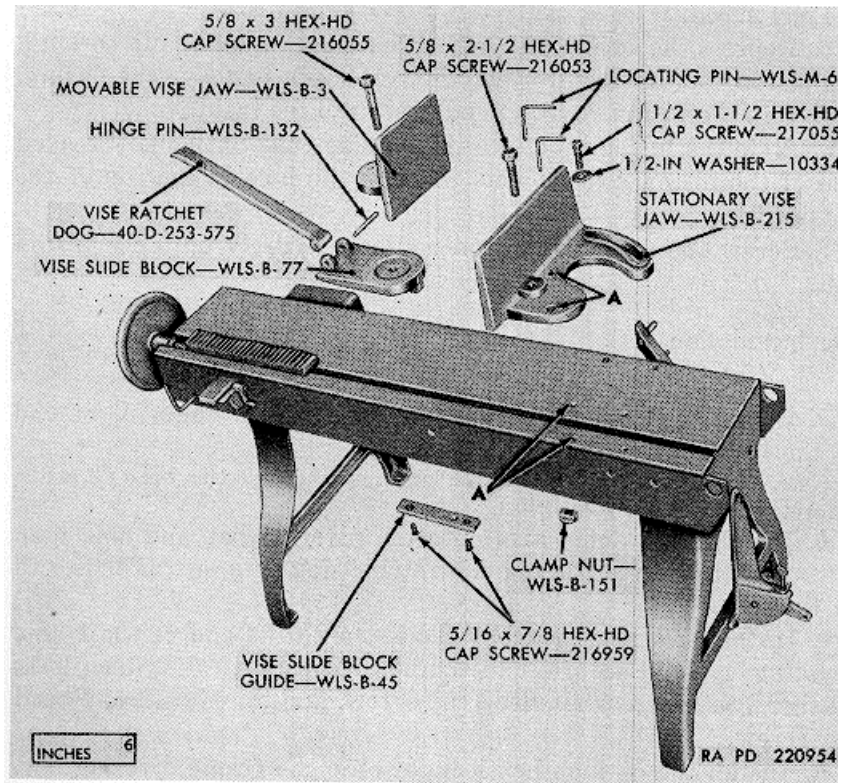
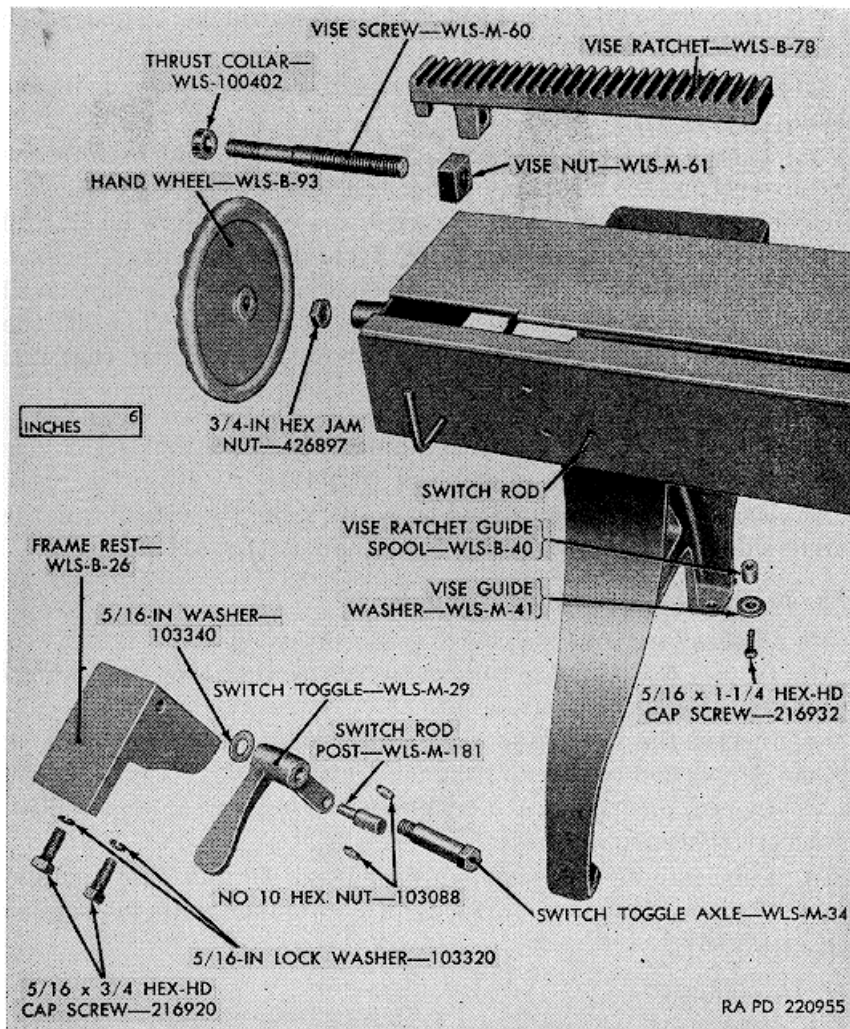
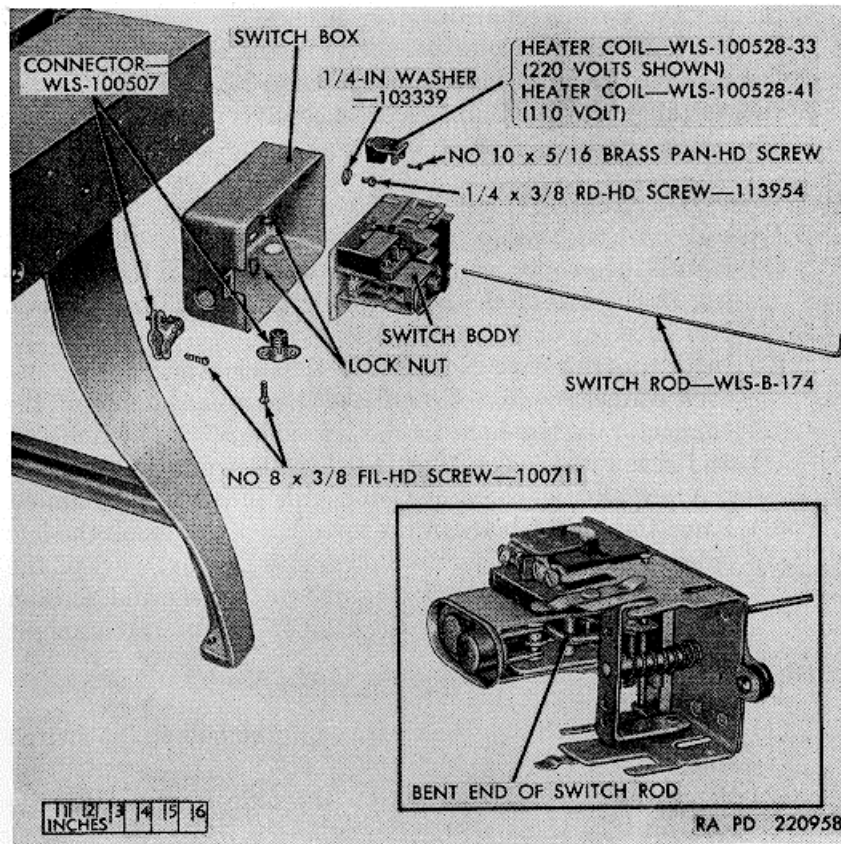

Figure 41. Vise assembly—exploded view.
Figure 42. Vise ratchet, handwheel and switch toggle-exploded view.
Figure 45. Pushbutton switch-exploded view.
The vise assembly (fig. 41) clamps and holds the material in position for cutting. It is located on the bed of the bandsaw and is tightened by the handwheel (fig. 42) on the left side of the band saw. The vise can be positioned to make angular cuts up to 45° (par. 15d).
- a. Slip out the two locating pins from the stationary vise jaw (fig. 41).
- b. Remove the hex-head cap screw and washer from the slot in the stationary vise jaw (fig. 41).
- c. Remove the other hex-head cap screw from the stationary vise jaw which will also release the clamp nut located on the underside of the bed and remove the vise jaw (fig. 41) and clamp nut.
- d. Unscrew the hex-head cap screw from the movable vise jaw and lift off the jaw (fig. 41).
- e. Remove the two hex-head cap screws from the vise slide block guide, from the underside of the bed, and remove the guide (fig. 41)
- f.* Remove the vise slide block with the vise ratchet dog attached (fig. 41).
- g.* Turn the vise screw (fig. 42) in as far as it will go, using the handwheel.
- h.* Loosen the hex jamnut on the vise screw and remove the handwheel and the hex jamnut (fig. 42).
- i.* Remove the hex-head cap screw, the vise guide washer, and the vise ratchet guide spool (fig. 42) from the underside of the bed.
- j.* Pick up the vise ratchet slightly and move it to the right until the vise screw clears the welded sleeve on the bed. Then lift the vise ratchet clear of the bed and remove the thrust collar (fig. 42).
- a.* With a drift, drive out the hinge pin which holds the vice ratchet dog and the vise slide block (fig. 41).
- b.* Unscrew and remove the vise screw from the vise nut on the underside of the ratchet and remove the nut (fig. 42).
- a.* Thread the longer threaded section of the vise screw into the vise nut until it is flush with the end of the nut (fig. 42).
- b.* Slip the vise nut between the U-shape and the square with the hole through, located on the underside of the vise ratchet, and continue screwing the vise screw through the hole (fig. 42).
- c.* Place the hinge side of the vise ratchet dog between the two bosses on the vise slide block, then push the hinge pin through the holes and peen the ends of the pin (fig. 41).
- c. Thread the 3/4-inch hex jamnut (fig. 42) about an inch on the vise screw.
- d. Screw the handwheel onto the vise screw until the screw extends about one thread on the outside of the handwheel (fig. 42).
- e. Draw the hex jamnut snugly up against the handwheel (fig. 42)
- f. Place the vise slide block, with the ratchet dog attached, on the bed of the bandsaw, letting the rib, which runs the length of the block, drop into the slot in the bed and place the ratchet dog into one of the teeth of the ratchet (fig. 42).
- g. Position the movable vise jaw (fig. 41) on the vise slide block and insert the 5/8 x 3 hex-head cap screw through the holes in the block and jaw.
- h. Place the stationary vise jaw on the bed of the bandsaw, aline the holes marked "A" (fig. 41), and slip the locating pins through the vise jaw and into the bed.
- i. Place the 1/2 x 1 1/2 hex-head cap screw through the 1/2-inch washer and install the screw through the curved slot in the stationary vise jaw (fig. 41).
- j. Slip the 1/2 x 1 1/2 hex-head cap screw through the stationary vise jaw. From the underside of the bed, position the clamp nut (fig. 41) in the slot of the bed below the cap screw and securely tighten the cap screw into the clamp nut.
- l. From the underside of the bed, install the two 5/16 x 7/8 hexhead cap screws through the vise slide block guide (fig. 41) and into the vise slide block.
- m. Tighten the 5/8 x 3 hex-head cap screw (g above) into the slide block guide (fig. 41).
b. *Switch Toggle* (fig. 42).
- (1) Remove the two hex-head cap screws and two lockwashers from the frame rest.
- (2) Remove one hex nut from the end of the switch rod.
- (3) Remove the frame rest with the switch toggle attached.